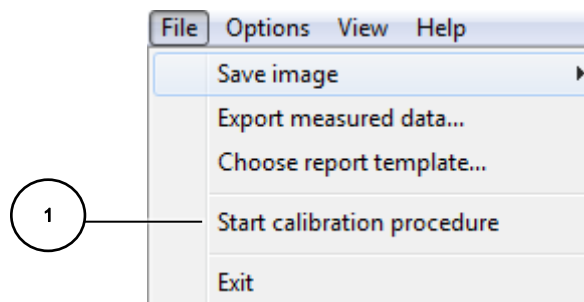

FIGURE 27: "START CALIBRATION PROCEDURE" ENTRY IN "FILE MENU"
3. Open the “File” menu and click on “Start calibration procedure” (1), see Figure 27, to start the calibration